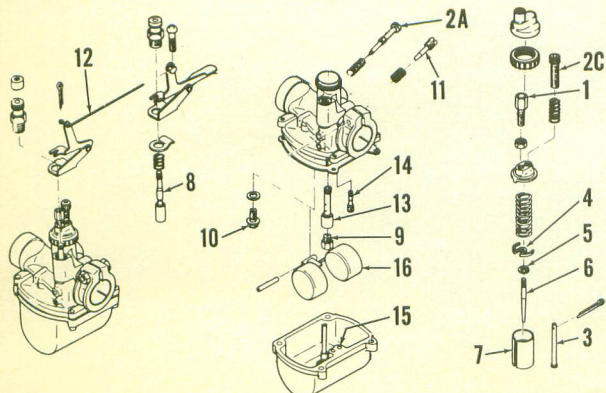
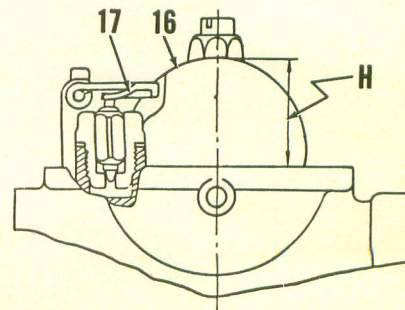

Fig. Y4-1—Exploded view of Mikuni VM carburetor used on early models. Starting valves for both carburetors are connected with rod (12).
Fig. Y4-3—Float level (H) is adjusted by bending tang (17).
CARBURETOR. Two Mikuni VM carburetors are used. Idle speed should be set to 1,100-1,300 rpm by turning screws (2A—Fig. Y4-1) or adjusters (2C). Make sure that both stop at exactly the same position and exhaust pressure is the same for both cylinders. Idle mixture is changed by turning needles (11). Initial setting is 1¼ turns open on model RD200A, 1¾ turns open on models AS2C, YAS1 and YAS1-C and 2 turns open on all other models. Turning the needle counter-clockwise leans the mixture. Carburetors must be synchronized to open exactly the same amount by turning cable guides (1) on top of each carburetor. To synchronize, begin by turning both idle
Float level (H—Fig. Y4-3) should be 22.5MM (¾ in.) for YAS1 and YAS1-C, 25.3MM (1 in.) for AS2C models, 30MM (1-3/16 in.) for RD200A models, and 21MM (13/16 in.) for all other models. Float height is adjusted by bending tang (17) on float. Refer to Fig. Y4-1 and the following standard specifications: